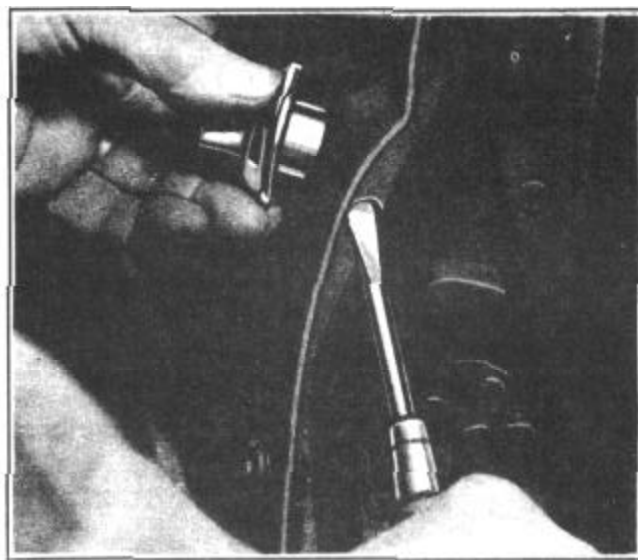

FIGURE 15
1. Through the access hole in the door behind the weather-strip, insert a screw driver as shown in Figure 15, and pry out door push button.